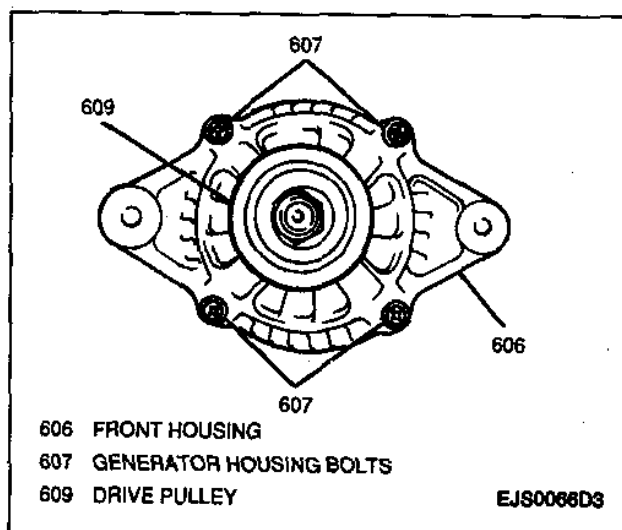

Figure 6—Generator Housing Bolts
2. Four generator housing bolts from front housing (Figure 6).